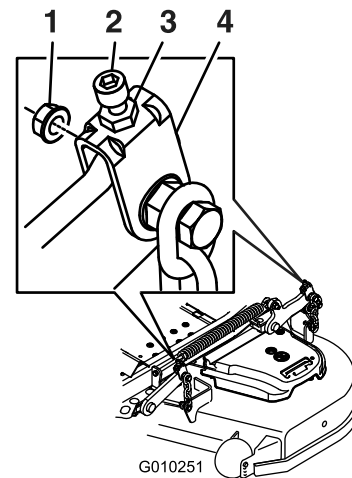

Figure 88
10. If needed, loosen the whizlock nut on the side of the yoke and the jam nut on top (Figure 88).
17. Fine-tune the screw adjuster by turning it to get 8.3 mm (3-1/4 inches) height (Figure 88).